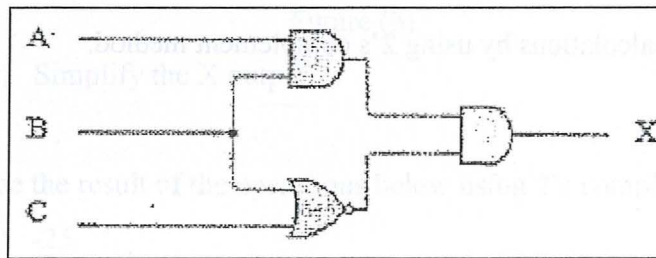

Figure 1(a)
- 4) Figure 1(a) shows a combinational logic circuit with three inputs and single output.